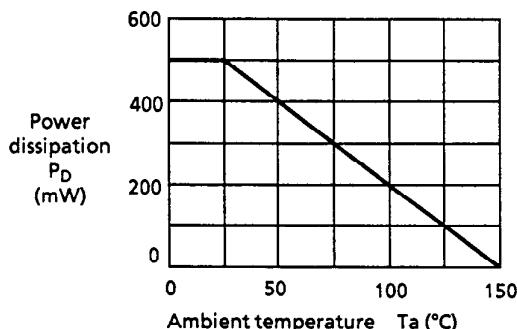

Figure 14 Package power dissipation
- Take short-circuiting and overheating into consideration during design because no short-circuit or overheat protection circuits and loaded in the S-8437/8438AF. As reference, Figure 14 shows the package power dissipation when unmounting at an ambient temperature.